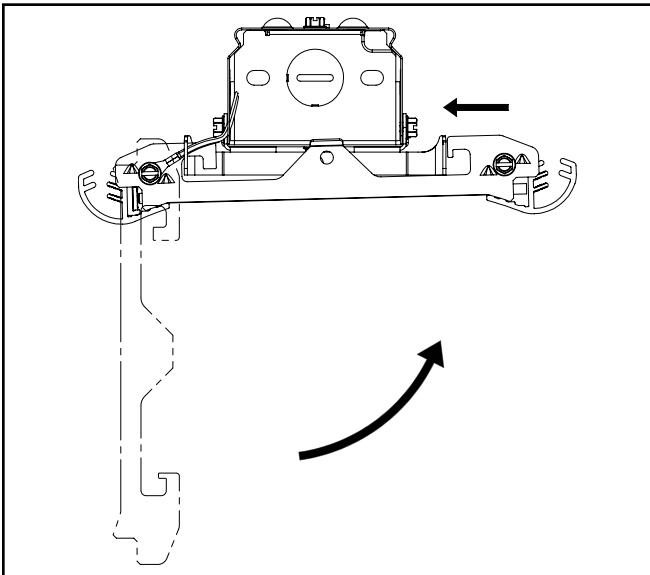

Figure 5.3.
- C. Rotate waveguide assembly into the another end of the driver housing assembly and move horizontally towards thicker tab end (Figure 5.3).